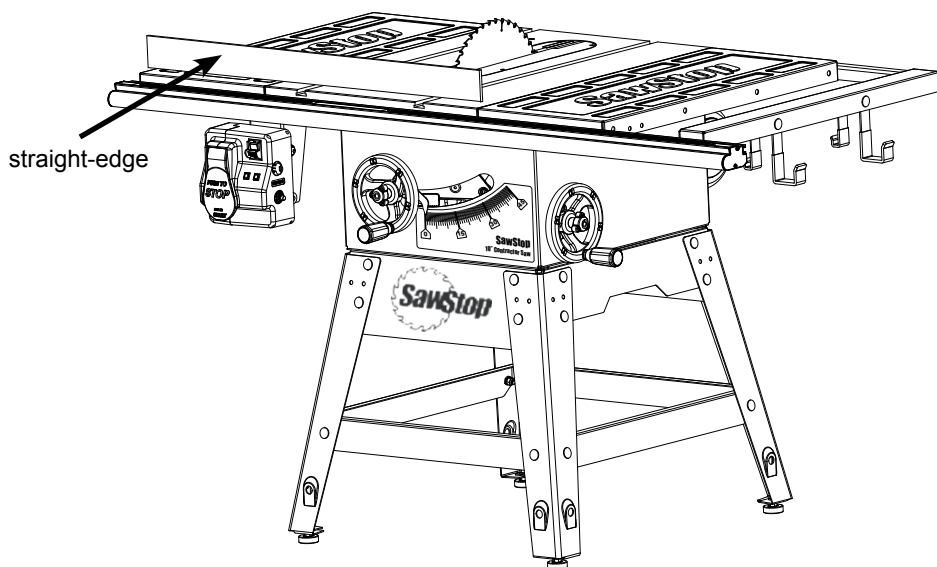

Fig. 16
16. Use a straight-edge to level the front edge of the left extension wing to the cast iron table top (see Fig. 16). You may have to pull up or push down on the outer edge of the extension wing. You also may need to remove the fence from the table to provide clearance for the straight-edge. Be careful not to change the position of the front rail. Once the front edge of the left extension wing is level, use a 13 mm wrench to fully tighten the nuts in the front rail that extend through the left extension wing and the table top. Repeat this process to level the front edge of the right extension wing and the material support shelf and then fully tighten the remaining nuts in the front rail.